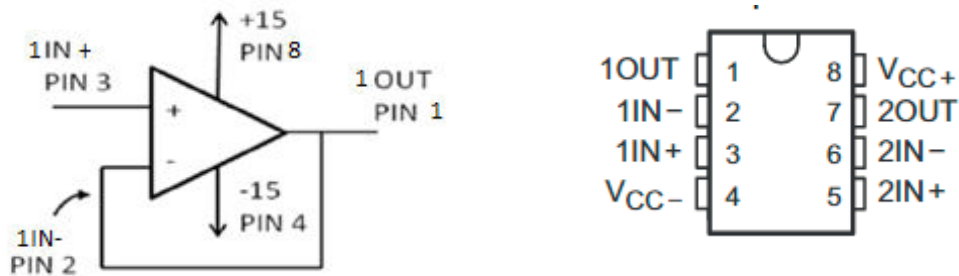

Figure 7. TL082 Op Amp Circuit Symbol and Pin Assignments(left) and TL082 IC Pinout (right)
Op Amp Buffers Circuits: Since op amps have their own power source, they can be used to build a unity gain buffer circuit whose purpose is to boost the power without changing the voltage waveform. This would result in a higher current since $P = IV$ is boosted with voltage remaining constant. The myDAQ analog output, AO, channels are limited to 2mA, so the AO channels can be passed through a unity gain op amp in order to deliver higher current levels. The pin diagram and schematic of an integrated chip (IC) containing an op amp is shown in the Figure 7. The IC pin number 1 is the one closest to the circle stamped into the top of the IC.